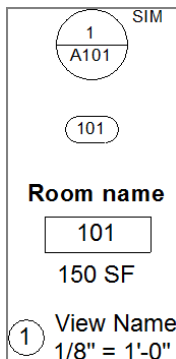

FIGURE 11.47: Populating the legend
8. With the Symbol command still running, place a door tag directly underneath the callout head, as shown in Figure 11.47.
10. Place a View Title (see Figure 11.47).